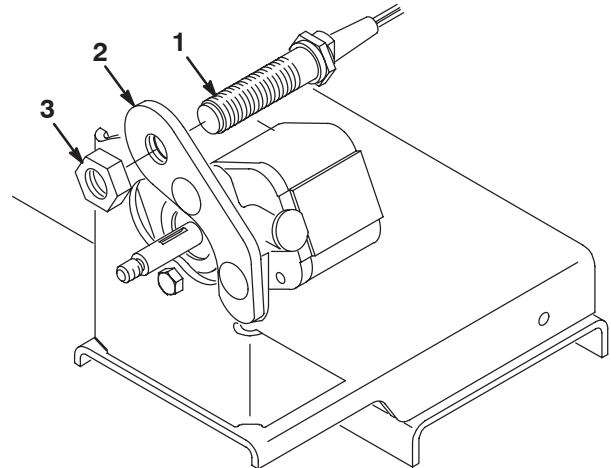

Figure 3
6. Thread the magnetic pick-up into the pick-up plate and loosely secure it with a hex nut as shown in Figure 3.